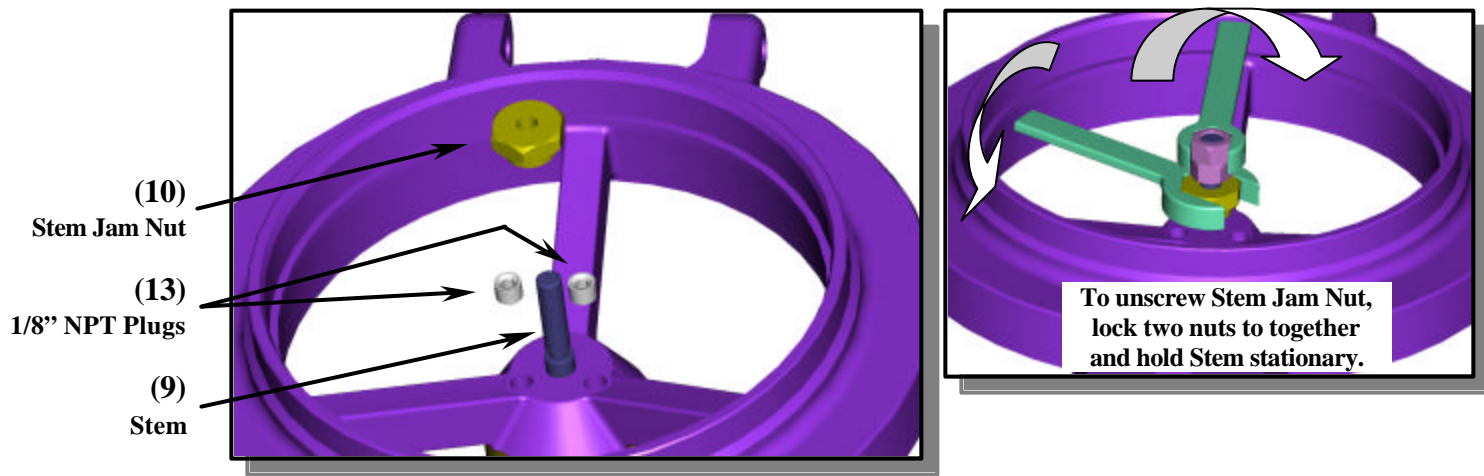

Figure 7
9.1.1. If *Stem* (9) starts to turn with *Jam Nut*, lock two 3/8"-16 nuts together at top of stem and use to hold *Stem*. See figure 7 Sub-view. Do **NOT** use a pair of pliers to grip stem since nicks on stem can cause o-ring seals to leak.
- 8.1 Place removable thread-lock on the threads of the *Stem (9)* and screw the *Stem Jam Nut (10)* all the way until it bottoms out. The round end of the *Jam Nut* faces down. See figure 7 of section 3.